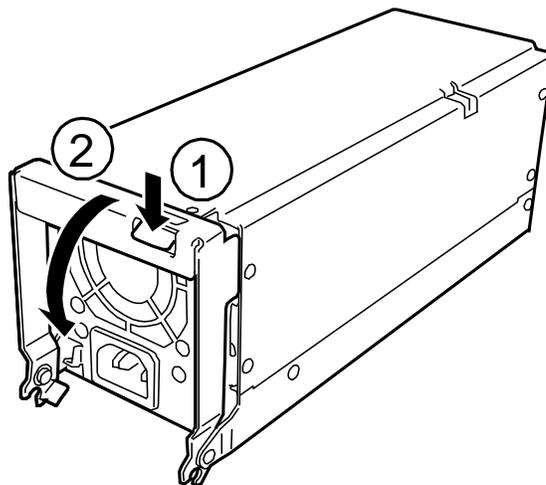

Figure 4-27. Preparing the Power Supply for Installation
3. Press down the locking tab of the power supply handle and open the handle. See Figure 4-27.